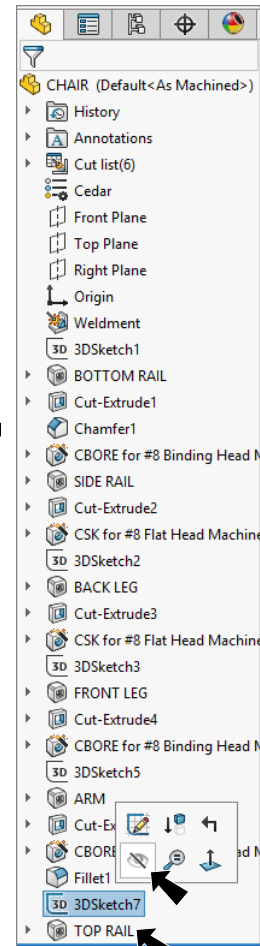

Fig. 13
Step 1. Rename Chair Wood 2 X 6(1) to TOP RAIL in the Feature Manager, Fig. 13.
Step 2. Hide 3DSketch7. To hide, click 3DSketch7 in the Feature Manager and click Hide  on the context toolbar, Fig. 13.